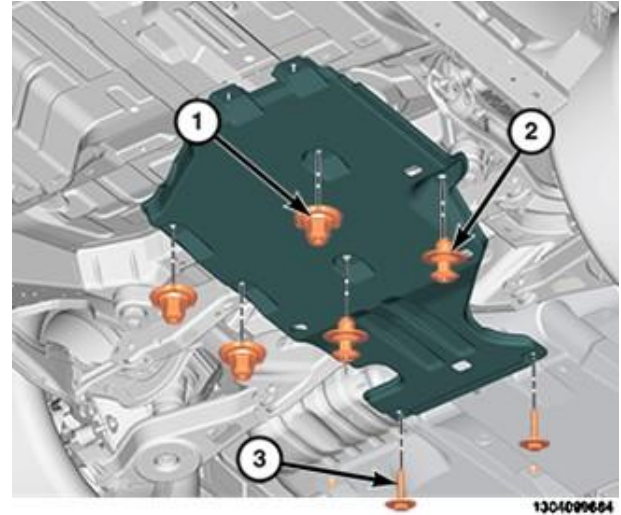

Figure 35 – Fuel Tank Belly Pan
50. Remove the fasteners from the fuel tank belly pan then remove the fuel tank belly pan (Figure 35).